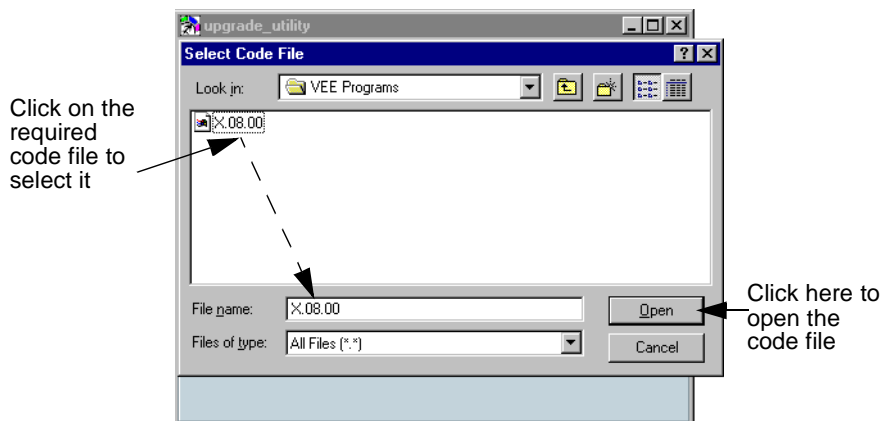

Figure 5-2. Select Code File
2. Click on the **Begin Download** button to open the “Select Code File” window shown in Figure 5-2.